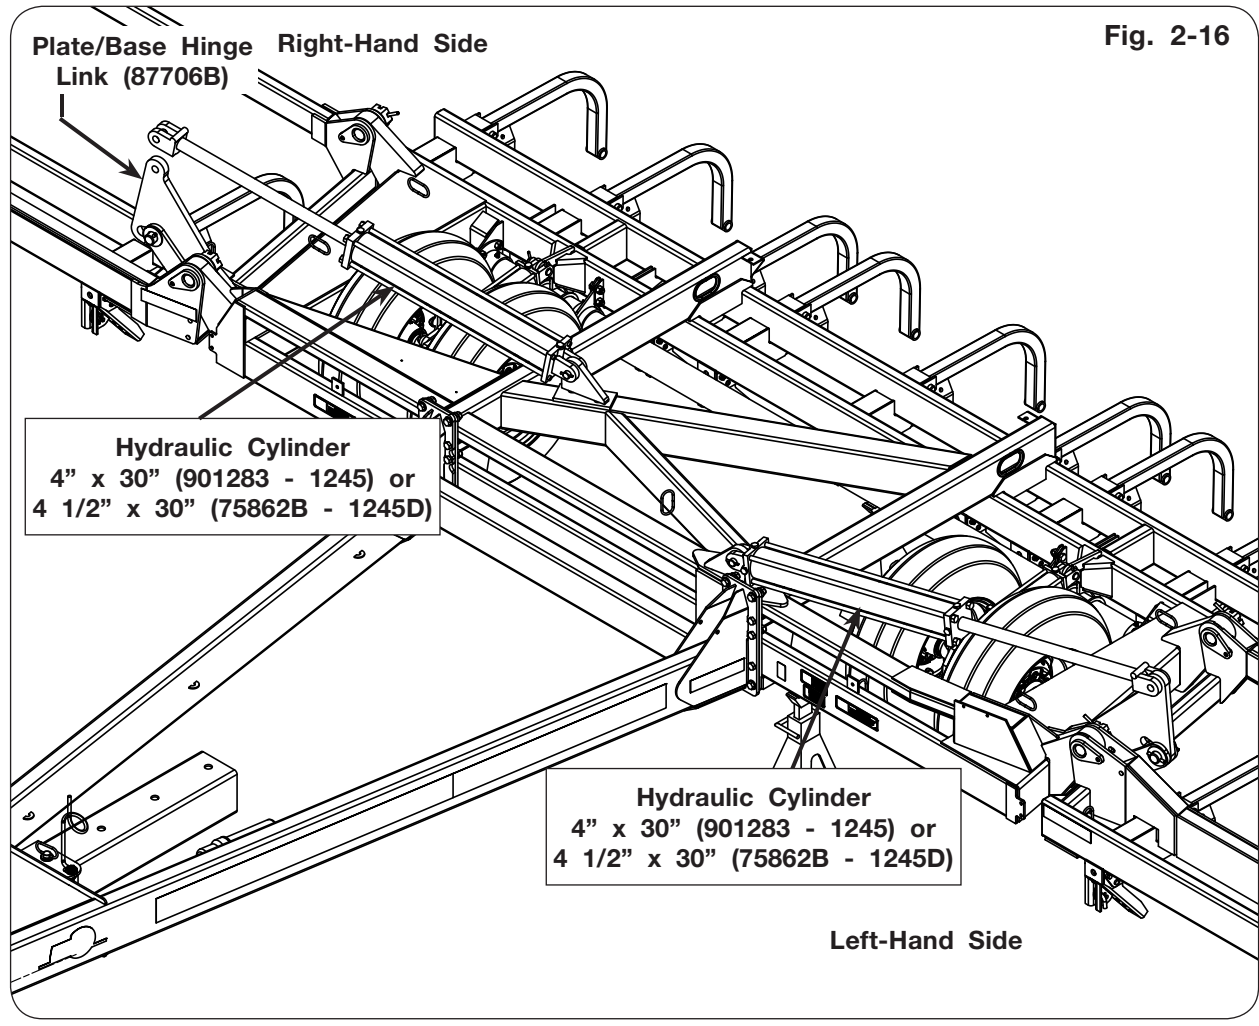

Fig. 2-16
- Using a safe lifting device rated for 100 lbs., secure the hydraulic cylinders with ports facing up, base end to the top of the main frame assembly and the rod end to the plate/base hinge link (87706B) using 1" Dia. x 4" pins (85631) and 1/4" Dia. x 1 7/8" spiral pins (91144-165) as shown in Fig. 2-16. Parts are located in the parts box/crate (87919B-1245, or 76572B-1245D).